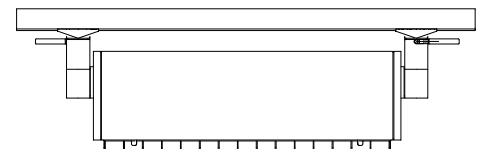

Fig. 3
5. Rotate LEVERS 90° while pushing upwards on ADAPTERS to make mechanical and electrical connection. See Fig. 3.